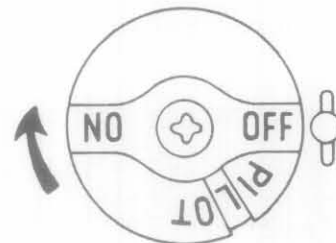

Figure 1
2. Turn gas valve knob (located behind fryer door) to OFF position. See Figure 1. Wait five (5) minutes before proceeding.
4. Release and continue rotating knob to OFF. See Figure 1.